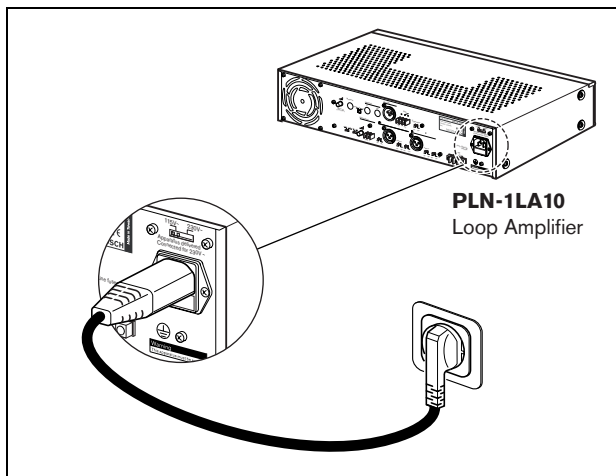

figure 4.7: Power supply, connection
- 3 Connect a locally approved power cable from the loop amplifier to a power outlet (refer to figure 4.7).